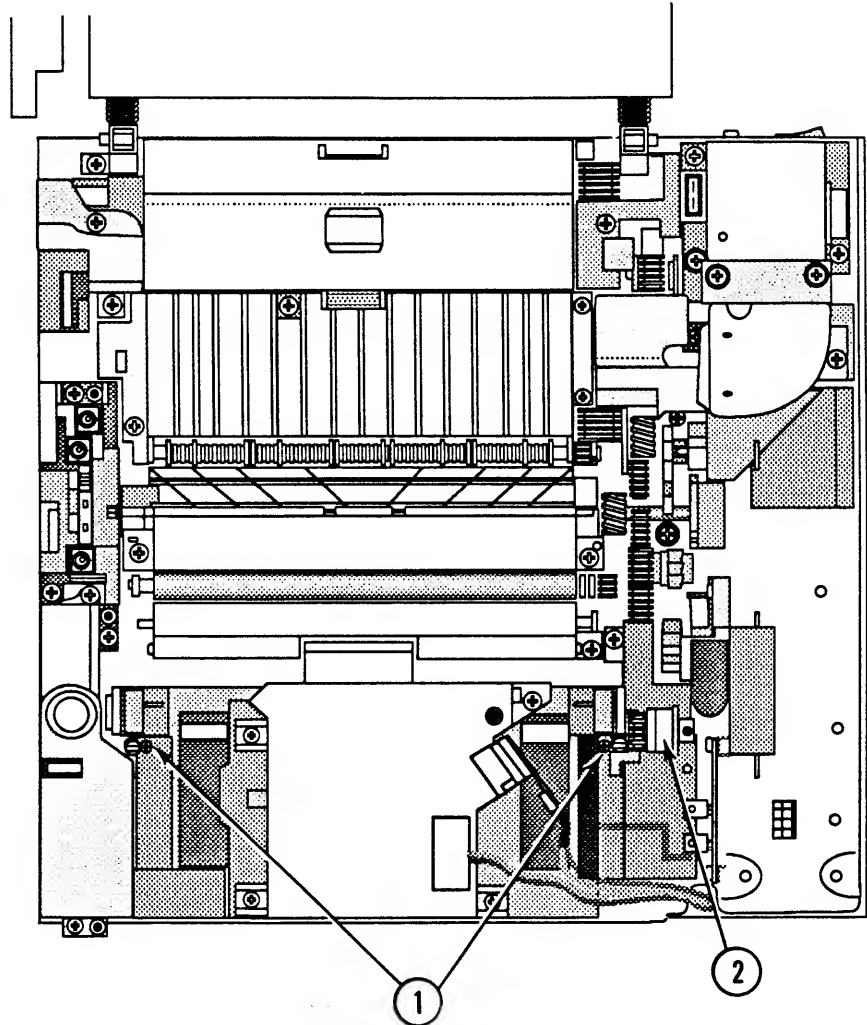

FIGURE 46
2. Remove the two Phillips screws (Figure 46, #1) that secure the paper feed assembly (Figure 46, #2) to the main body block.